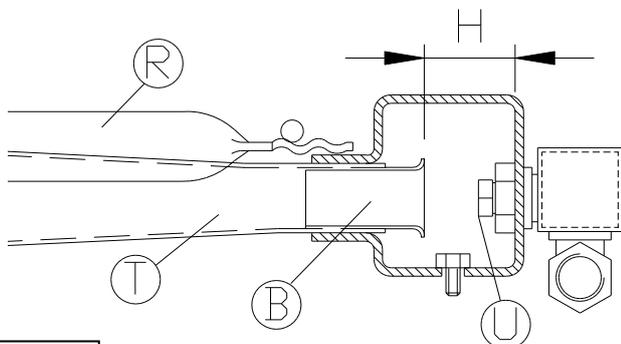

Fig. 6
- Undo the fixing screw and adjust the air bushing “B” to the correct distance H, according to the specifications in tables 4a or 4b and in Fig. 6. Then fully tighten the fixing screw and seal it with paint.